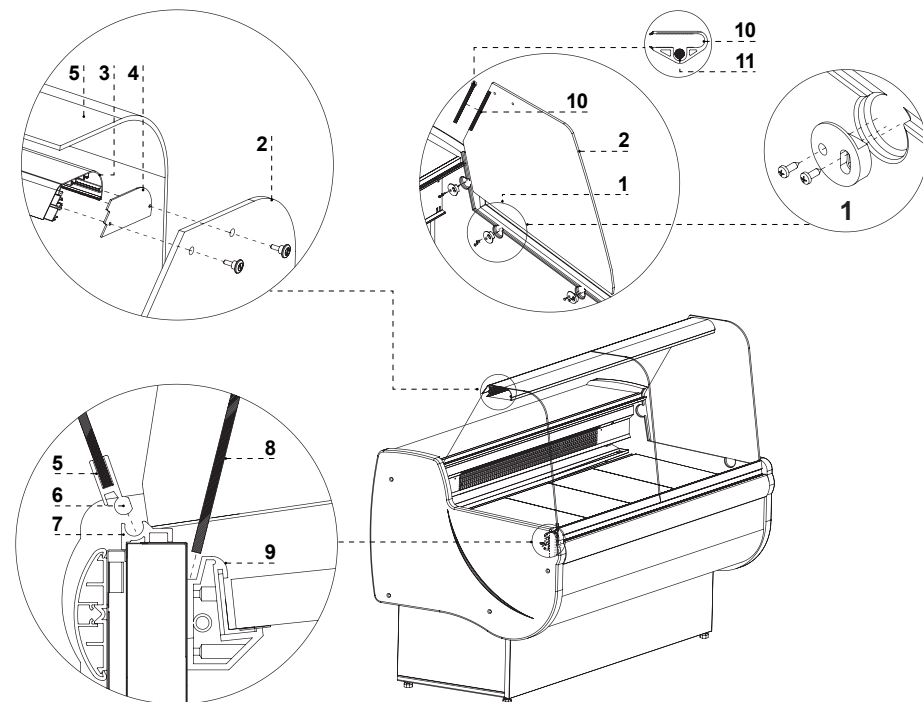

Fig.4 Assembly of glass elements and aluminium lamp
2. Mount glass sides Fig.4/2;1 (p.14)
3. Mount the aluminium lamp (together with lighting) on glass sides Fig.4/3 (p. 14)
4. Mount the casing of lamp conduit Fig.4/10 (p.14)
5. Mount front screen Fig.4/8 (p.14)
6. Mount front glasses of the display cabinet Fig.4/5 (p.14)